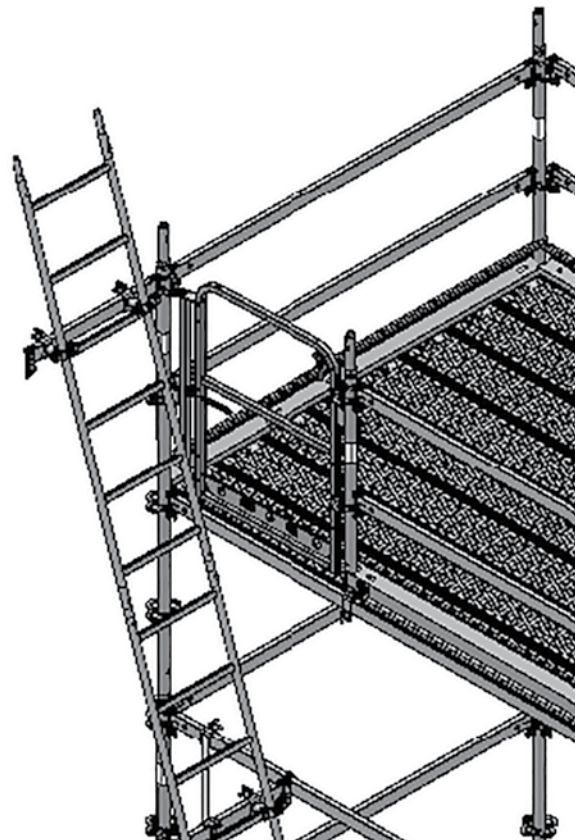

Fig. A2.05
4. Close the Ladder Connectors and tighten the screws. (Fig. A2.05)